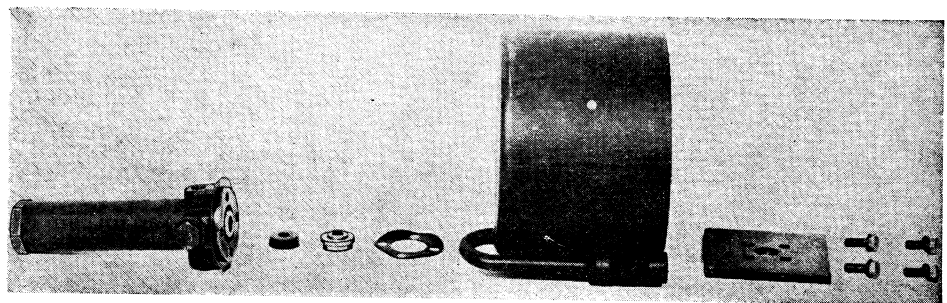

Fig. 8 Hydraulic cylinder removed from rear cylinder shell and push rod seal parts removed
6. Remove hydraulic cylinder by taking out four cap screws, Fig. 8.